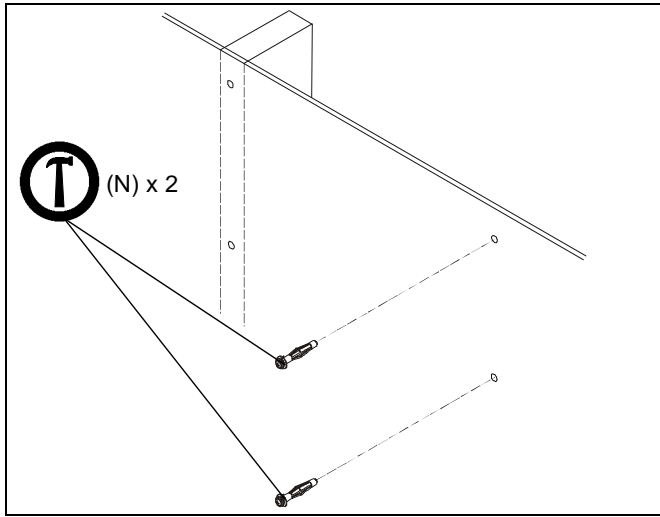
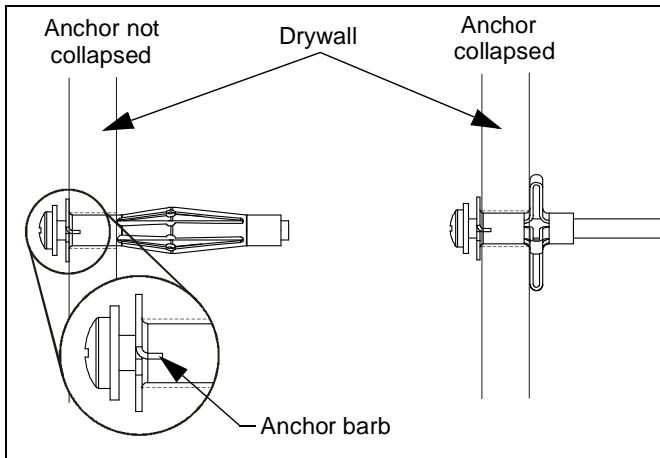

Figure 4
Figure 5
10. Gently tap anchors (N) into anchor holes. Anchor bars should be fully engaged in drywall. (See Figure 4) and (See Figure 5)
11. Using Phillips screwdriver, tighten anchor screw until anchor has fully collapsed against back side of drywall. (See Figure 5)